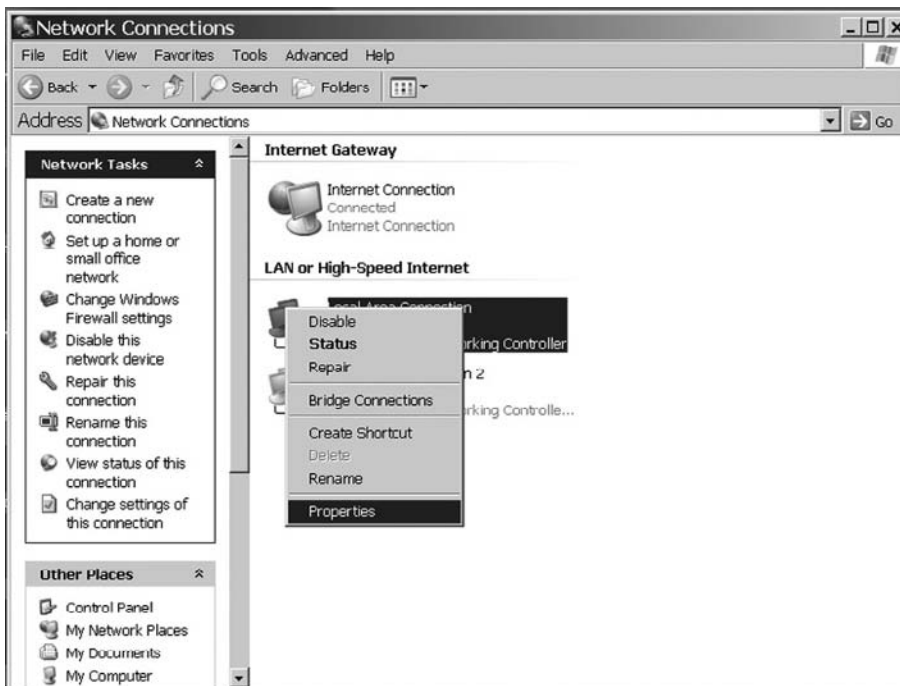
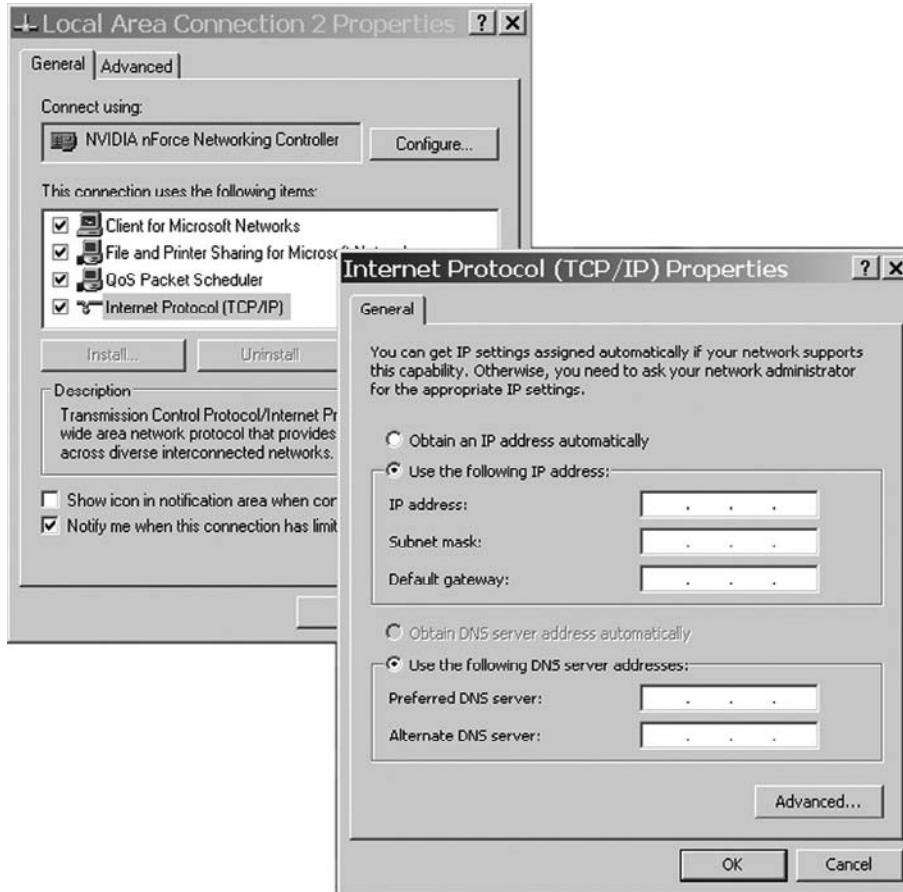

FIGURE 3-21 Right-click on Local Area Connection.
FIGURE 3-22 Properties for TCP/IP.
Right-click on the local area network icon (see Figure 3-21) and choose PROPERTIES. Once the PROPERTIES dialog box appears (see Figure 3-22), highlight INTERNET PROTOCOL (TCP/IP) and then click PROPERTIES. Another dialog box appears providing two primary choices: (1) Obtain an IP Address Automatically or (2) Use the Following IP Address. If using a company laptop, it may be configured for DHCP, which is the first choice of obtaining the IP address automatically. If not, then an administrator may have provided a static IP address.